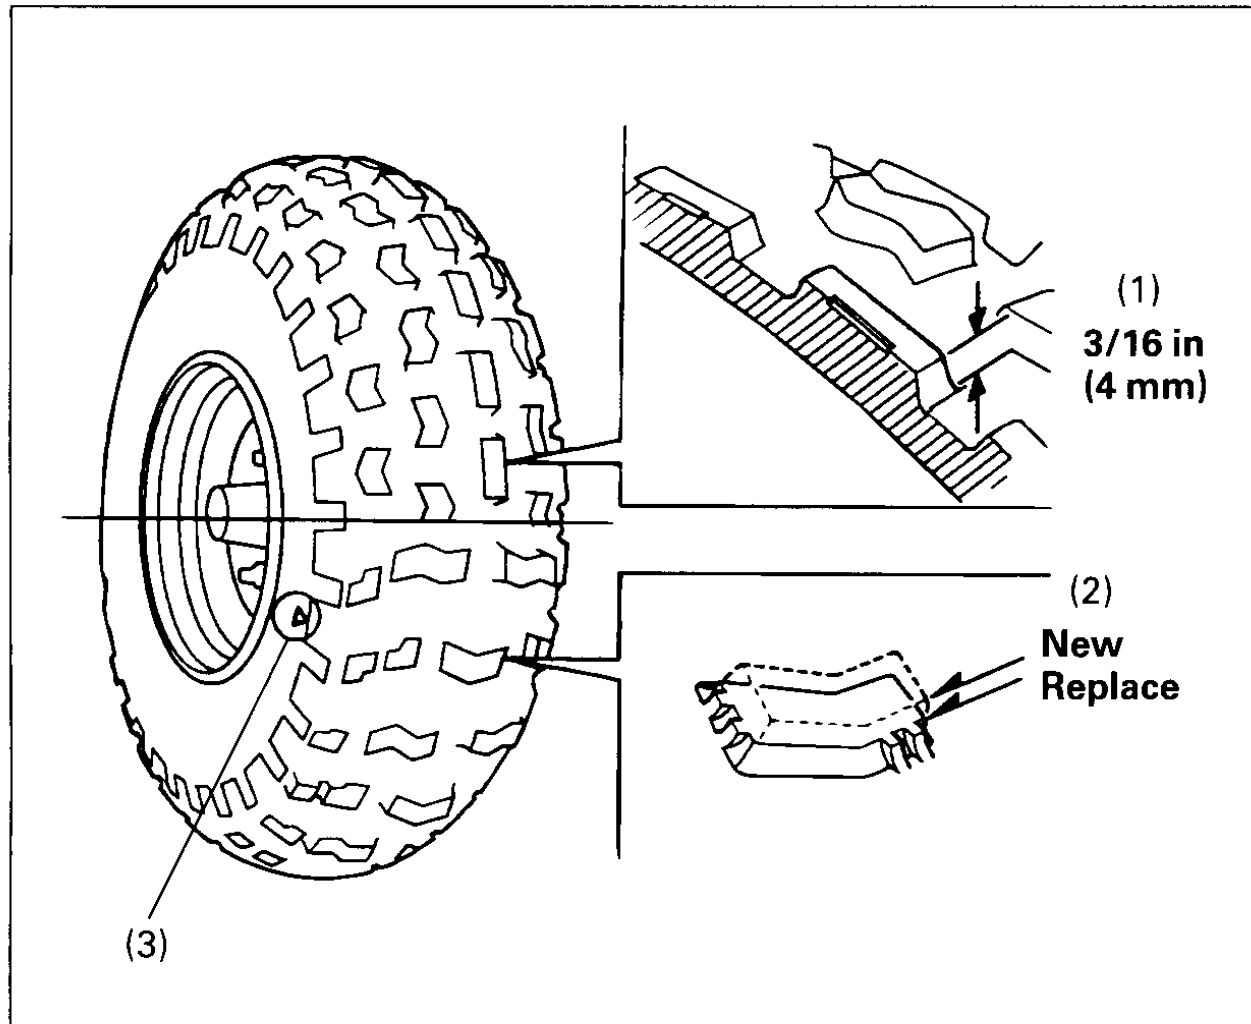

Fig. 4-28
To check the condition of a tire tread, measure the groove depth (1) (Fig. 4-28) in the center of the tire, or check the wear indicator (2). The minimum tread depth is 3/16 in (4 mm). When the tread depth is less than recommended, the tire should be replaced.